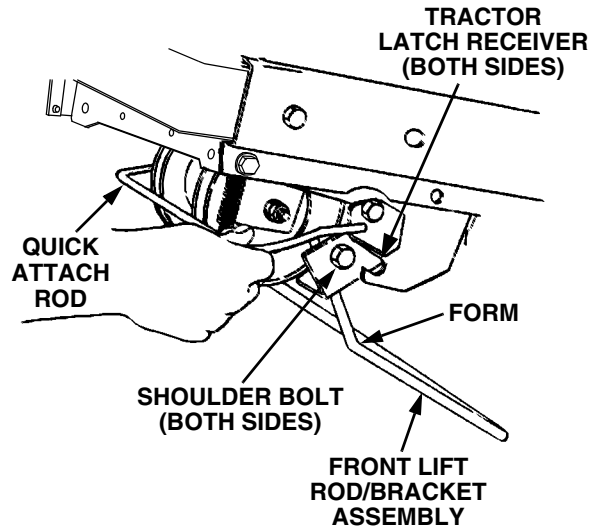

Figure 45
4. Refer to Figure 45 to ensure the correct orientation of the front lift rod/bracket assembly [form (bend) in sides of rod point downward]. From the front of the tractor, push downward and hold the tractor